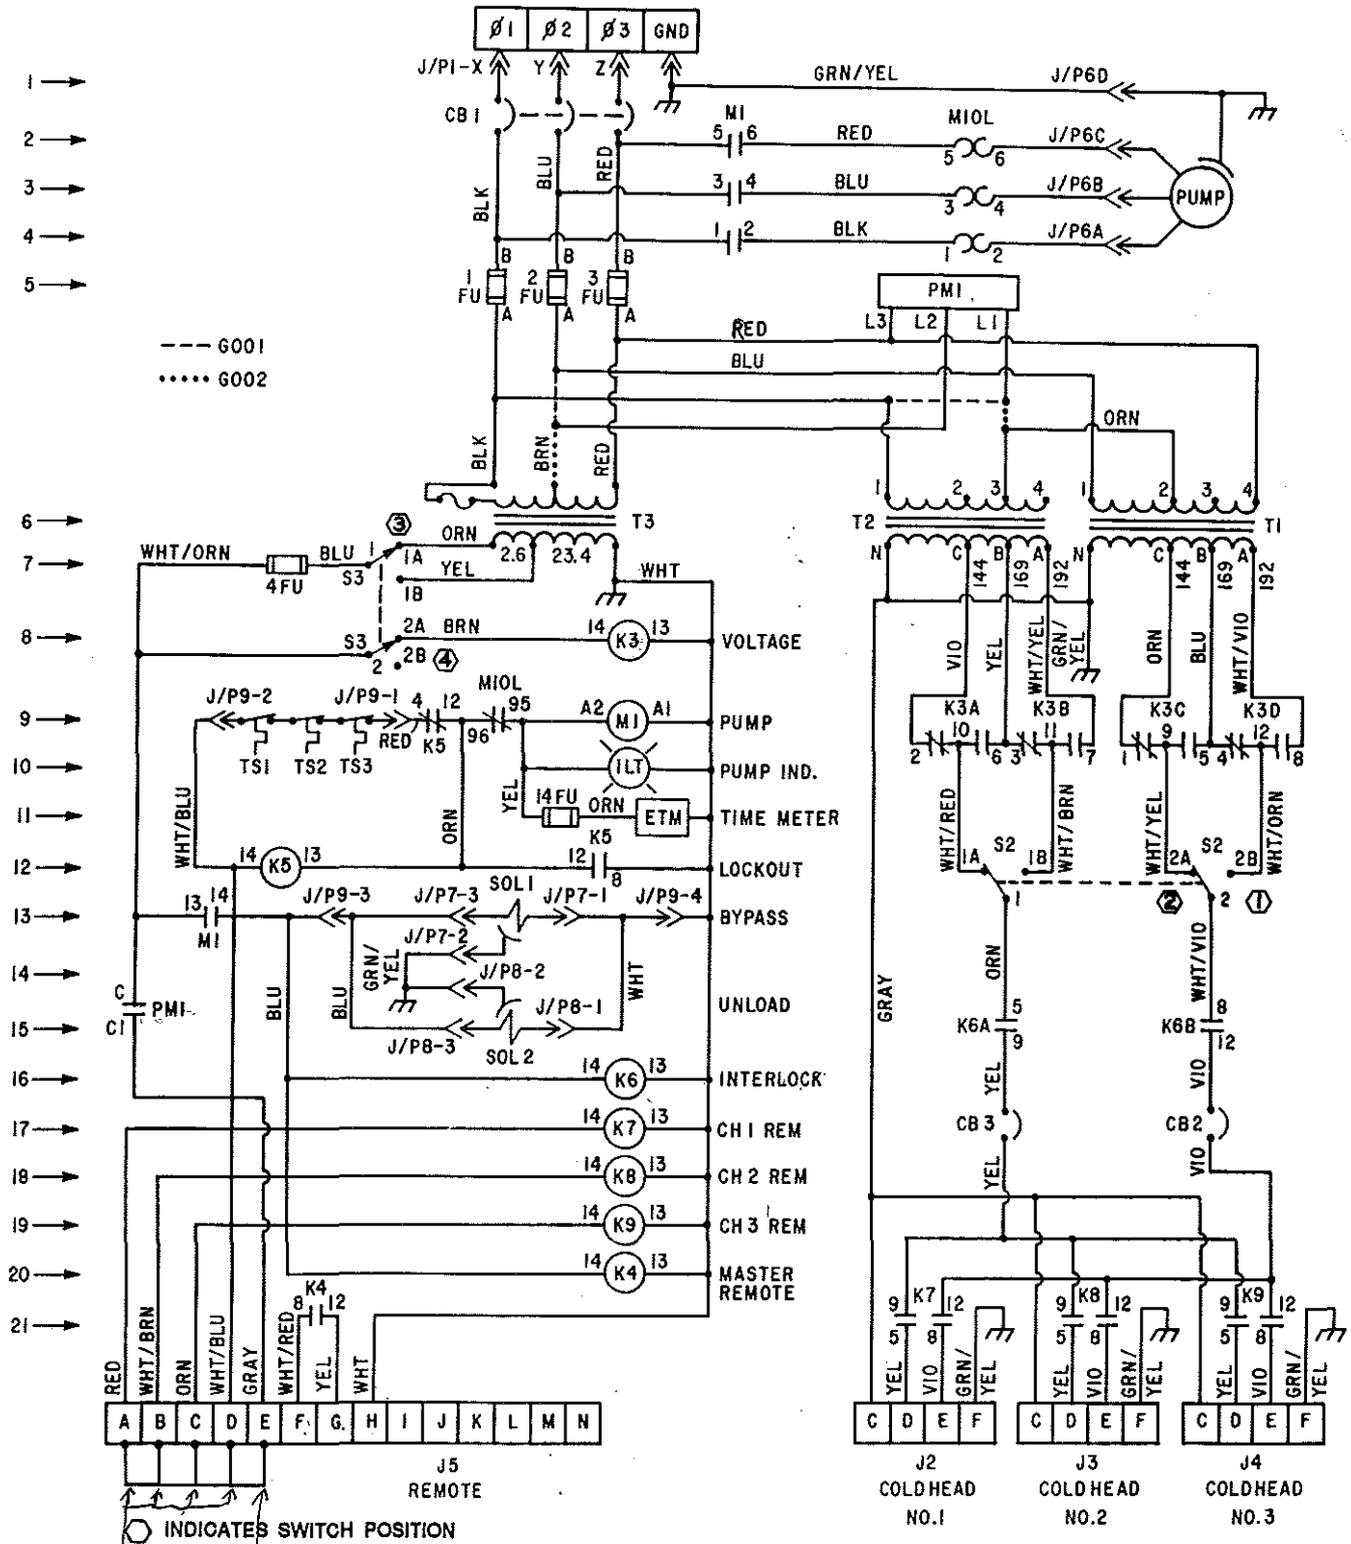

Figure B.1 Electrical schematic for 8500 Compressor, P/N 8031351 Rev. B
6) Remote control jumper plug not in place. This will apply only if remote circuit is not being utilized.	6) Check to insure that remote jumper plug is fully seated. See Figure B.1, page B-3, for jumper plug location on J5 remote connector.
8) Excessive current drawn by the compressor pump has caused the overload relay in the motor contactor (MI) to open.	8) a. Reset the overload relay in the motor contactor. Refer to Figure B.1, page B-3, for its location. b. Contact the Product Service Department.
LEGEND FOR FIGURE B.1